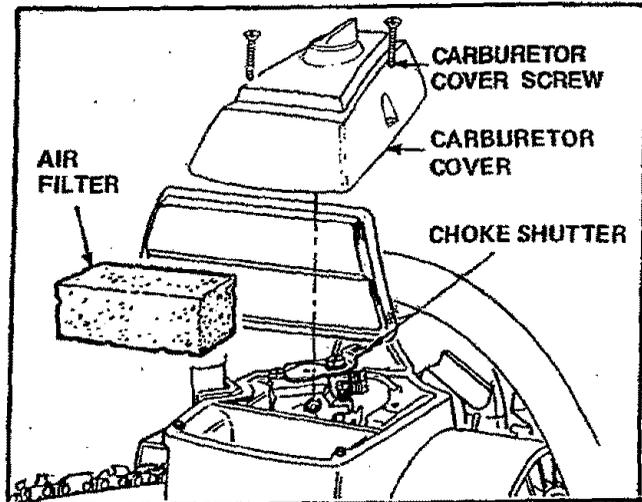
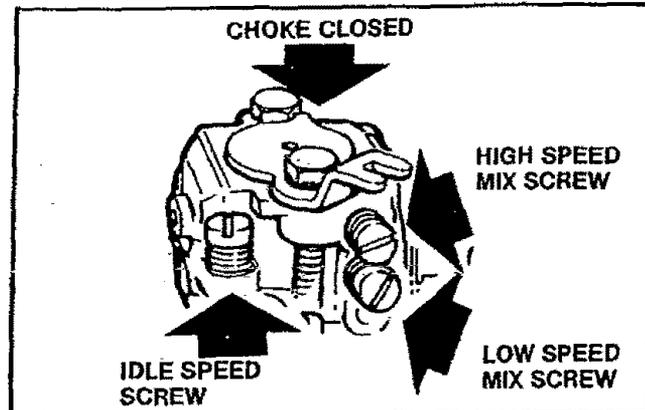

Figure 42
Figure 50
- Remove the carburetor cover screws and carburetor cover. Figure 42.
- d. Remove the carburetor cover screws and carburetor cover (Figure 42) and locate the three (3) carburetor adjusting screws. Figure 50.